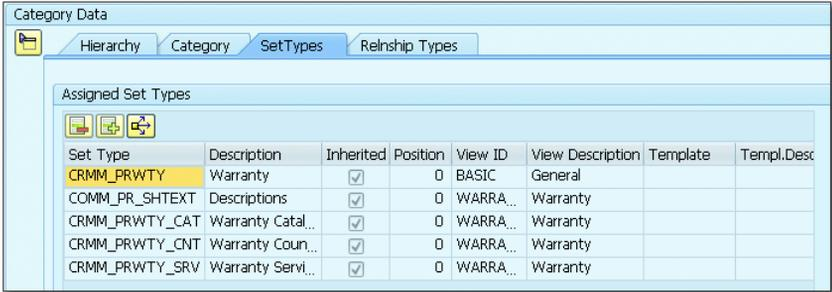

Figure 7.27 Warranty Set Types
2. Assign the warranty set types, as shown in Figure 7.27.